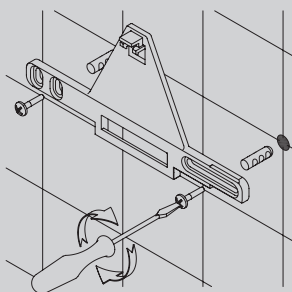

fig. 1
- Secure the wall bracket to the wall with screws and suitable wall plugs (see fig. 1).